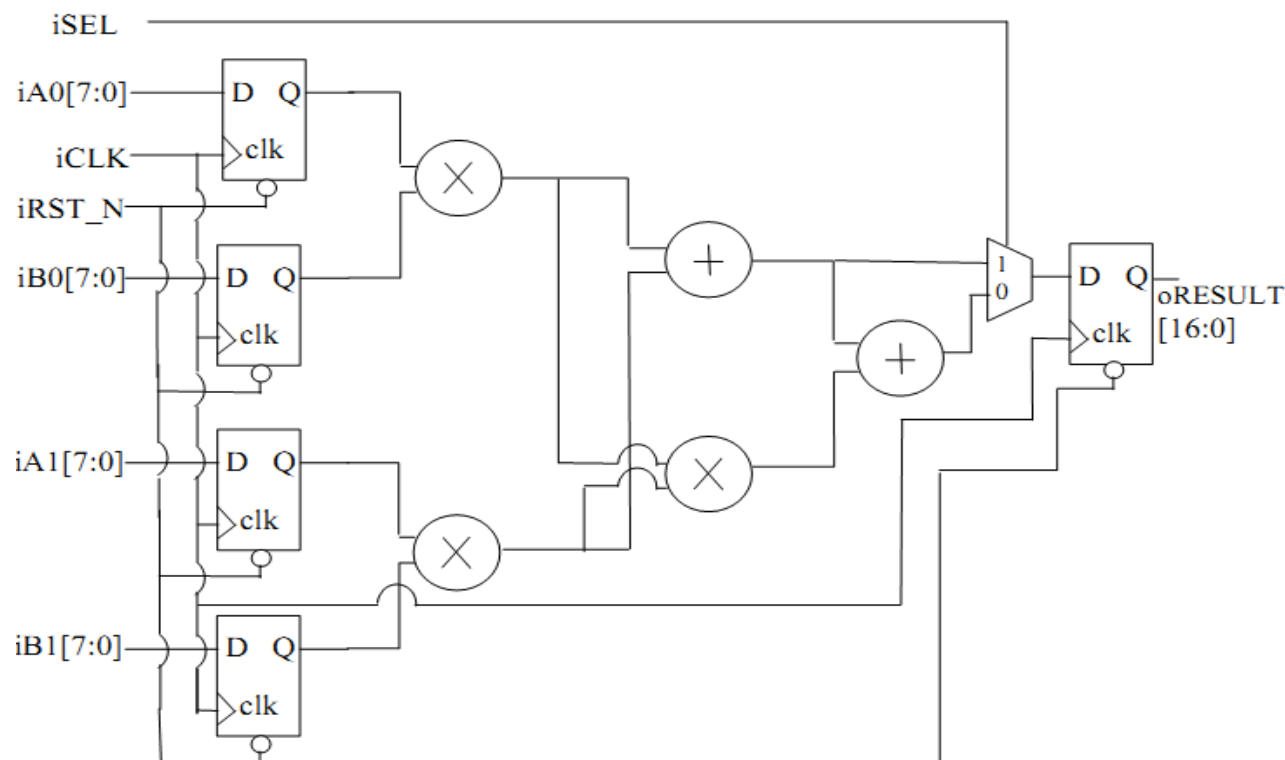

Fig. 3: Our original design from Lab 4.
2. Please draw the modified circuit diagram of our design in Fig. 3 to save the multiplier at the lower left corner. You may just draw it by hand but draw them clearly.